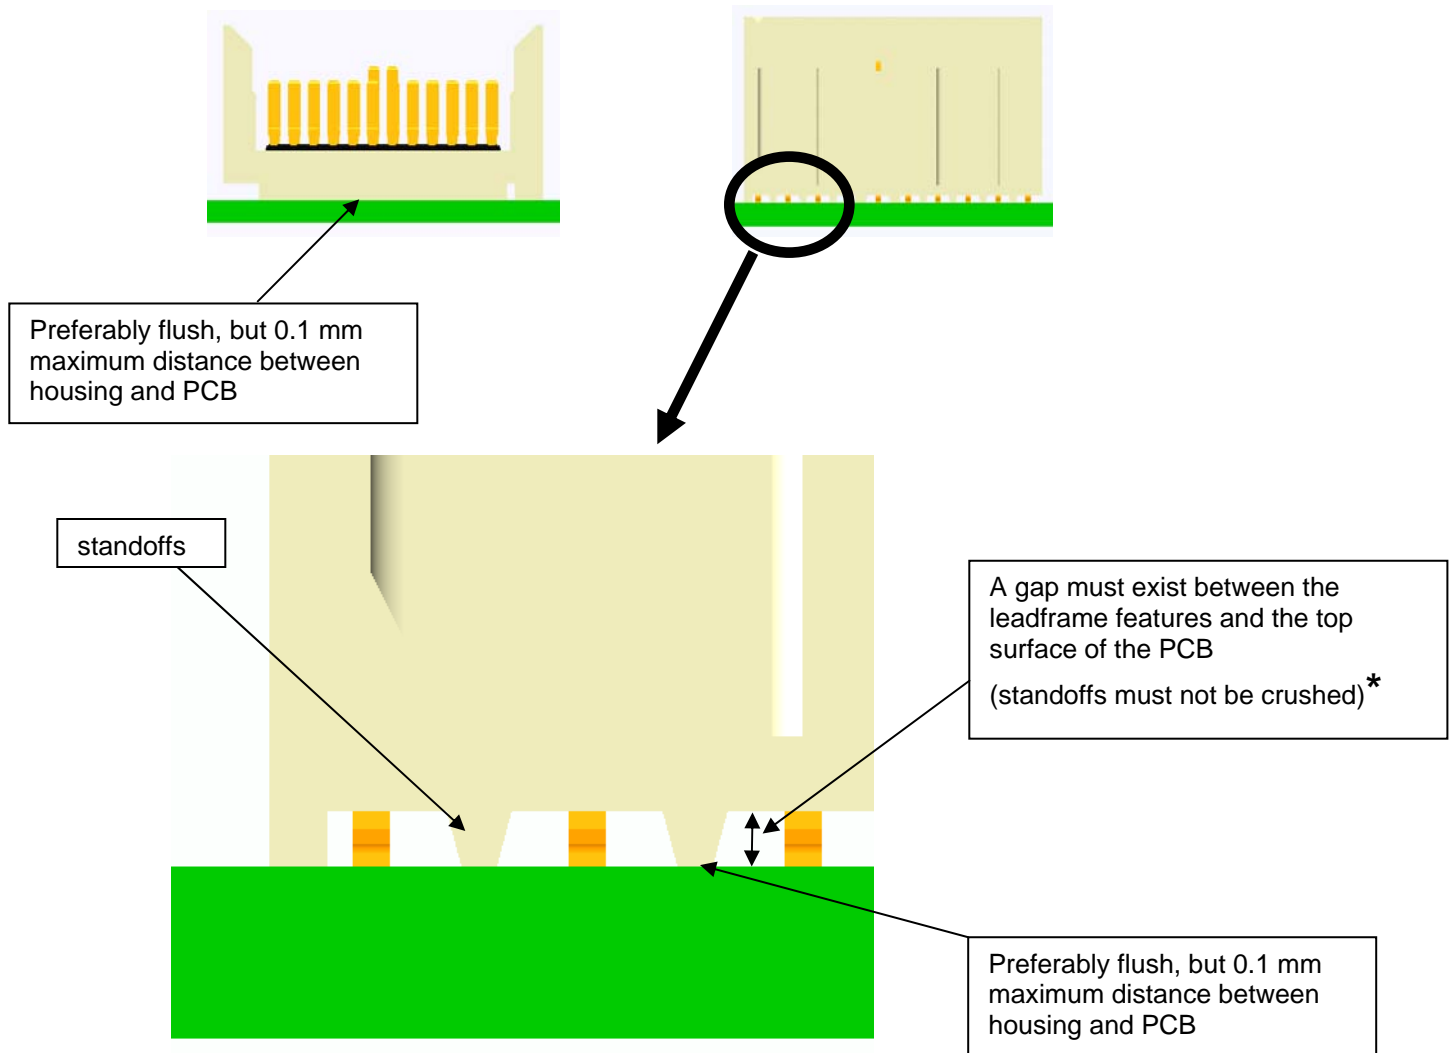

**Figure 14: Proper seating depth, r/a header and r/a receptacle**
- For right angle products, visually assure that the plastic standoffs on the bottom of each assembly are seated within 0.10 mm of flush to the PCB but not crushed. Inspect the IMLA retainer for a maximum clearance to the board of 0.10mm (see Figure 14). A larger gap beneath the standoffs or retainer may indicate that the connector is not seated fully or is not seated parallel to the board. This can cause misalignment when the daughter card is mated to the backplane.